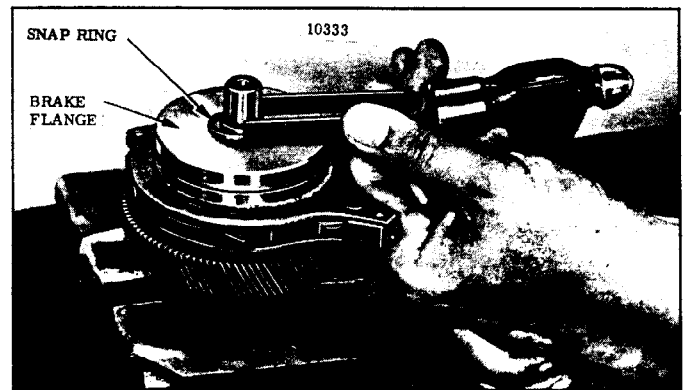

Figure 5-6. Remove Snap Ring From Load Brake Shaft.
(1) Place load brake assembly, flange up, in a vise equipped with brass or copper jaw plates to protect pinion gear teeth. Remove snap ring from end of load brake shaft (Figure 5-6).